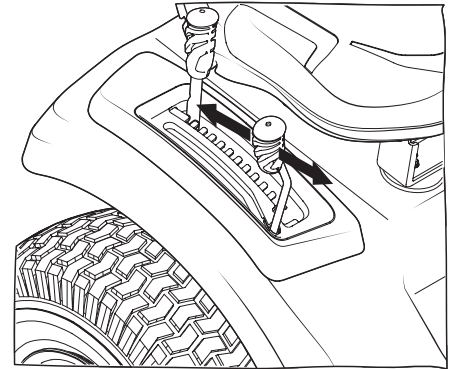

Figure 3-6
2. Push the PTO handle forward into the engaged (ON) position. See Figure 3-6.